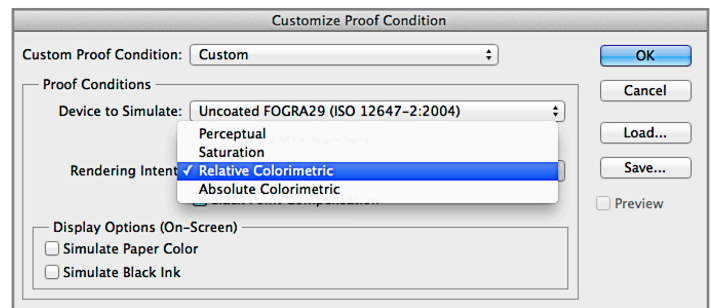

Figure 38
e. Create a convenient named preset for each of the rendering intent and profile combinations you use on a regular basis. To do this, click on the Save button at bottom right of Figure 38, on previous page, and give the preset an easy to understand name, including device, substrate and rendering intent. For example, 7900-PuraVelvet-RelCol will preview how an image prints on an Epson 7900, using Breathing Color Pura Velvet with Relative Colorimetric rendering intent (Figure 39).